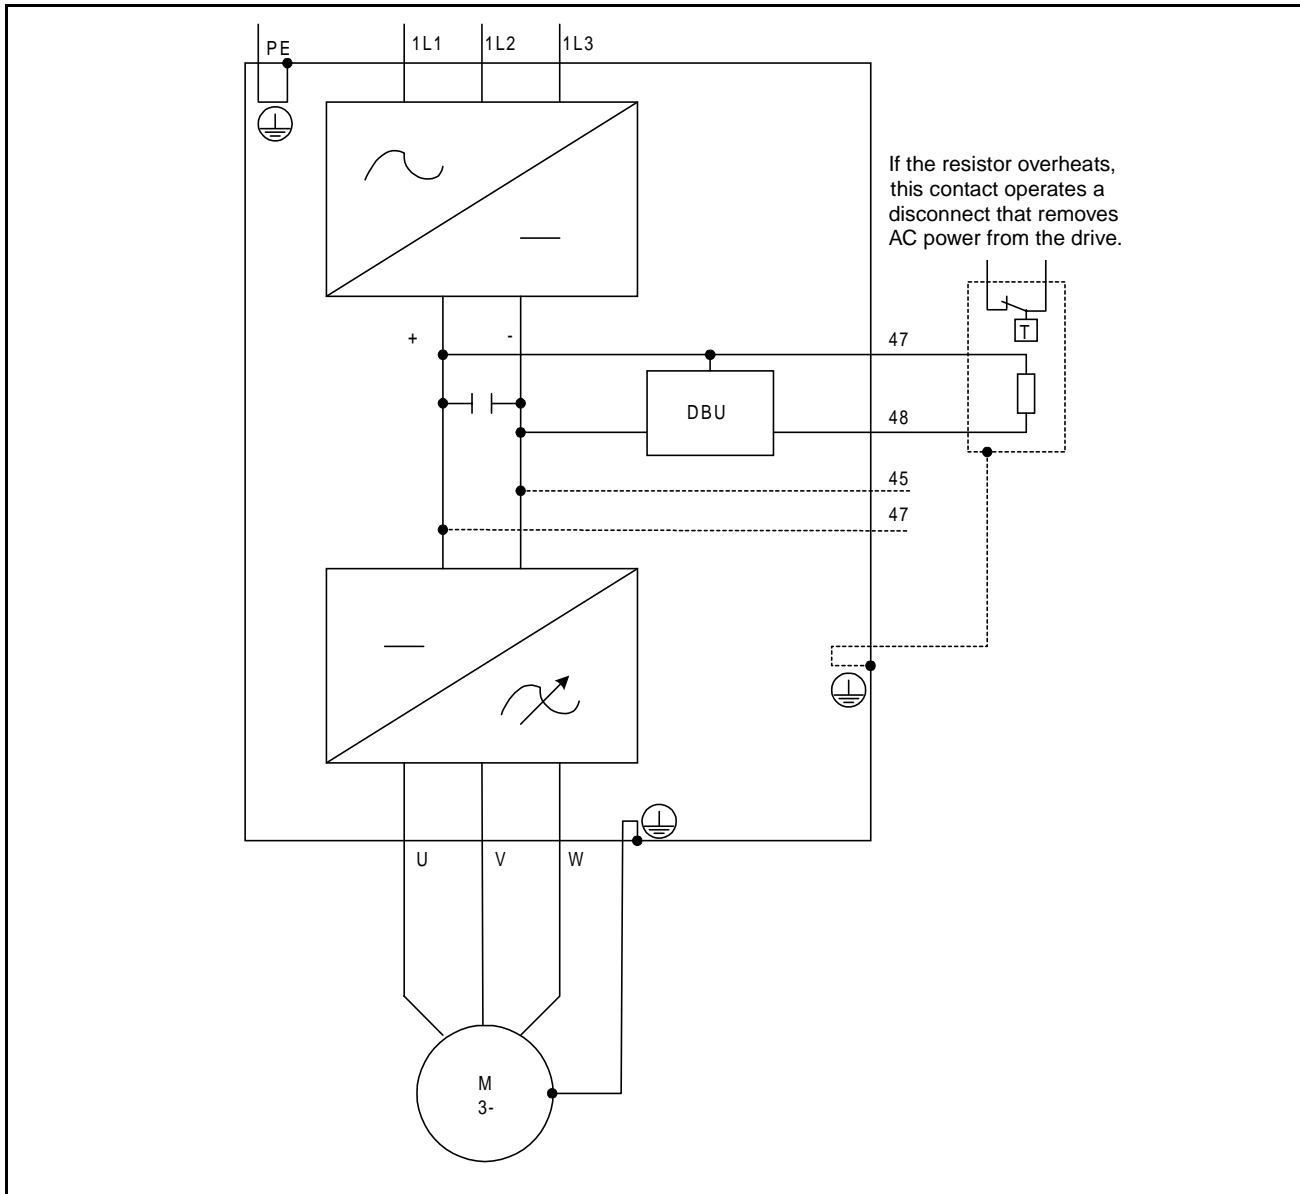

Figure 8.1 – Braking Resistor Wiring Connections
- Provide ground connections as shown in figure 8.1.
To prevent possible damage due to an overload on the braking resistors, install a thermal protection device according to figure 8.1 and table 8.3.